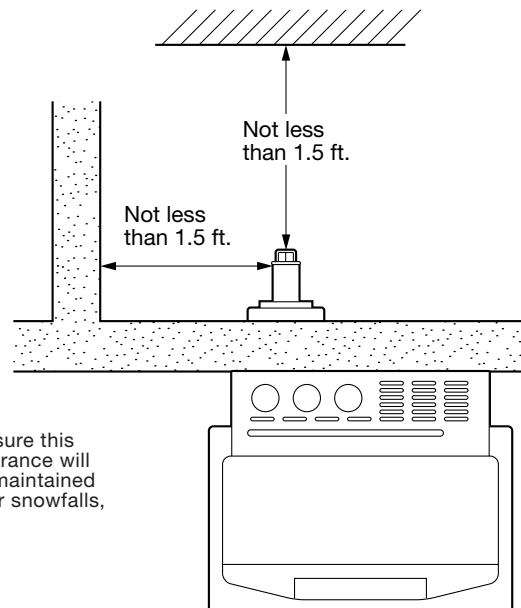

Fig. 3
When using the "Extension pipe (S)" extension kit, the distance between the heater exhaust pipe connection and the flue pipe connection must be at least 15-3/4 inch but no more than 22-3/4 inch. (See Figure 3 for reference.)